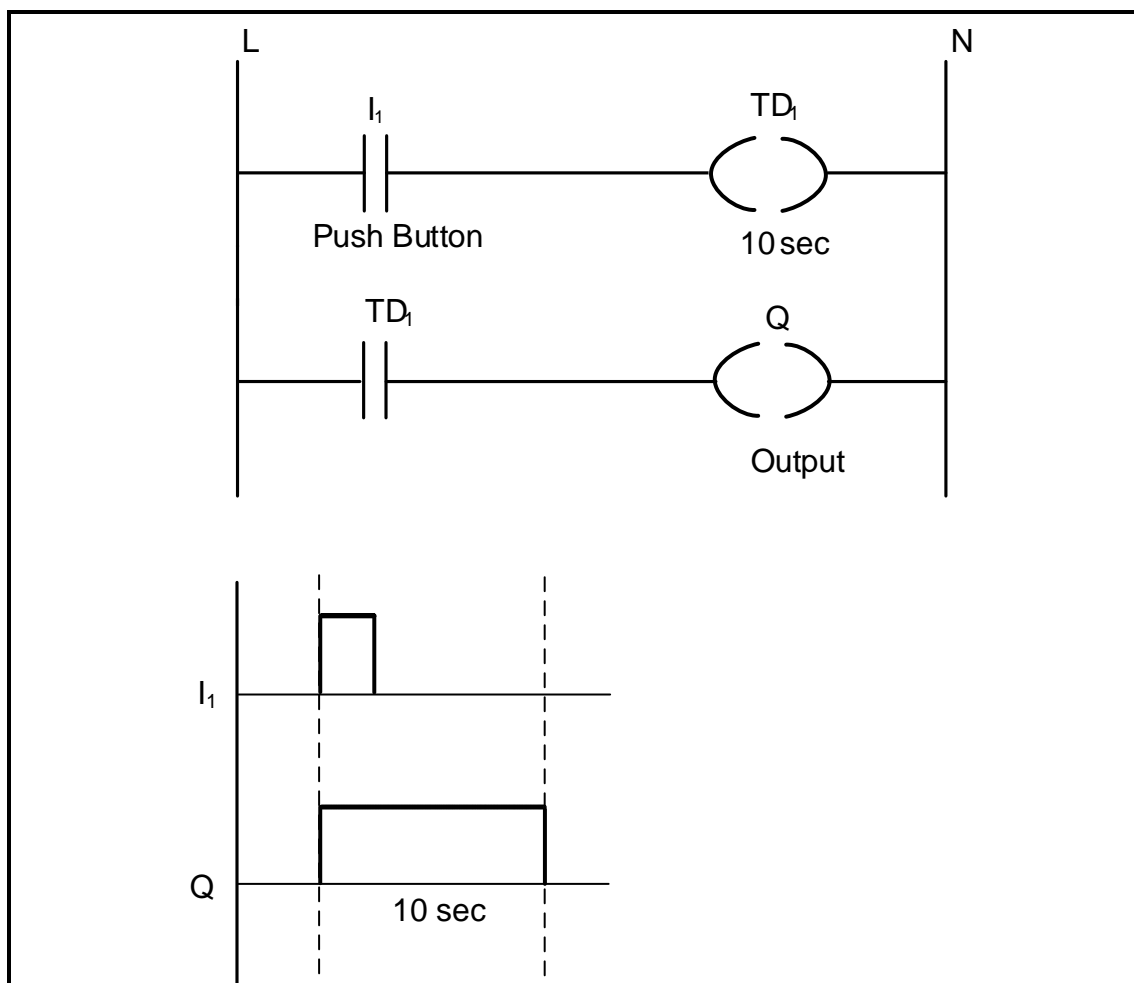

FIGURE 6.6: TIME-DELAY PLC LOGIC PROGRAM
6.6 FIGURE 6.6 below shows a PLC logic program with a time delay of 10 seconds. Answer the questions that follow: